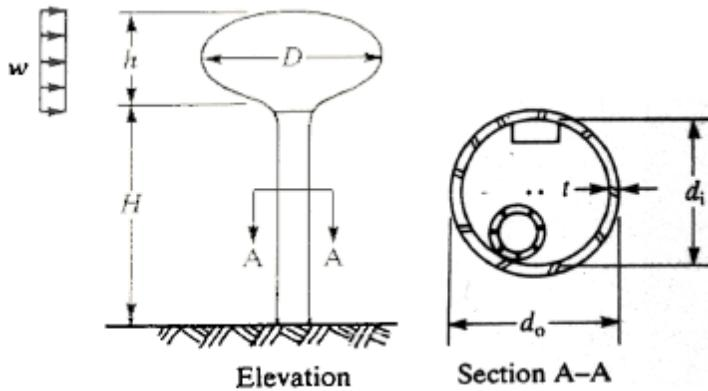

FIGURE E3.51 Water Tower support column.
Design of a water tower support column. As a member of the ABC consulting Engineers you have been asked to design a cantilever cylindrical support column of minimum mass for a new water tank. The tank itself has already been designed in the tear-drop shape shown in Fig. E3.51. The height of the base of the tank (H), the diameter of the tank (D), and wind pressure on the tank (w) are given as $H = 30$ m, $D = 10$ m, and $w = 700 \text{ N/m}^2$. Formulate the design optimization problem and solve it graphically. (created by G.Baenziger).